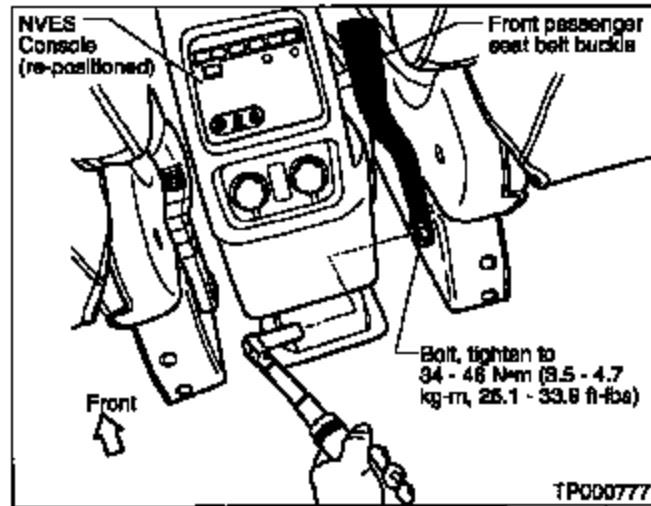

Figure 16
4. Install the new seat belt buckle and tighten the mounting bolt to 34 – 46 Nm (3.5 – 4.7 Kg-m, 25.1 – 33.9 ft-lbs). See Figure 16.